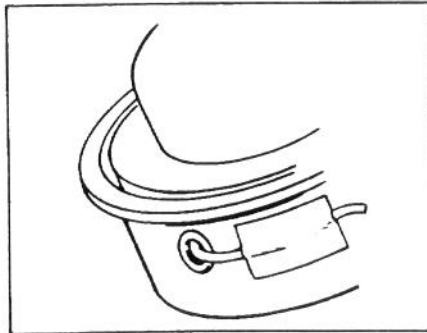

Figure 9
1. To avoid line tangle during shipment the tip of the monofilament line has been taped to the head assembly. The tape must be removed before operation (Fig. 9).